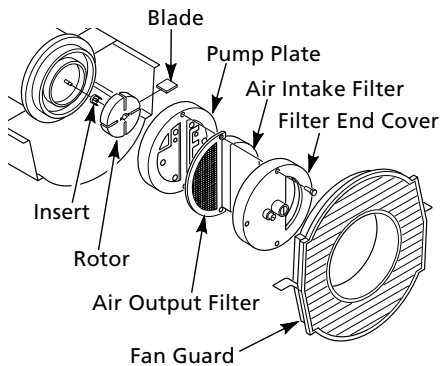

Figure 24 - Rotor Location, Models 2E510F and 2E511F
2. Remove filter end cover screws using 5/16" nut-driver (See Figures 24 and 25).